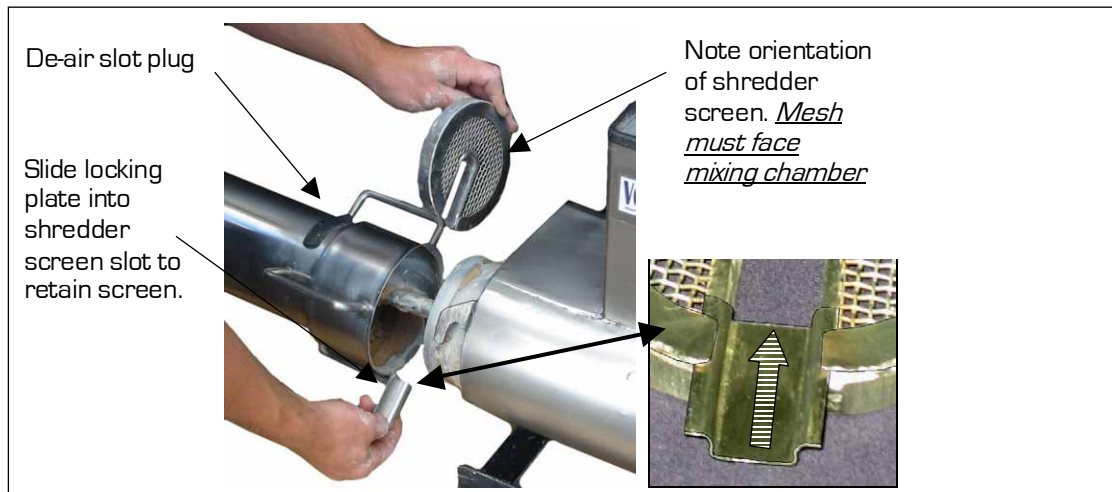

Figure 4: Fitting the shredder screen (note orientation)
- ❖ Some fine porcelain type clays are difficult to de-air. To improve de-airing, slow the rate of flow by blanking off the top of the shredding screen, adjacent to the de-airing slot. This may be accomplished by applying a layer of plastic adhesive tape to the top layer of the screen. See figure 4.